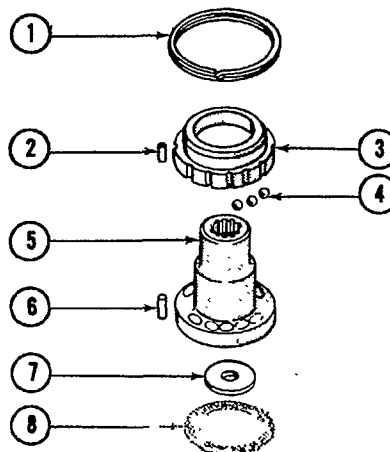

Figure 22
4. Carefully raise the input hub from the unit. The plate assembly and balls, Figure 22, will remove with the input hub. Exercise care not to misplace the pins which dislodge as the input hub is removed, since they will be loose once the plate clears the coupling.